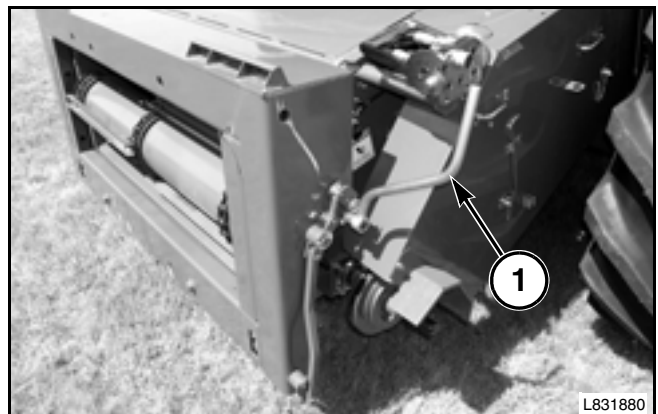

FIG. 53
FIG. 53: Install the concave door tool (1) onto the latch crank and rotate the upper latch assembly counterclockwise to lock the hooks into the header. Make certain the latch is rotated over center to securely lock the hooks.